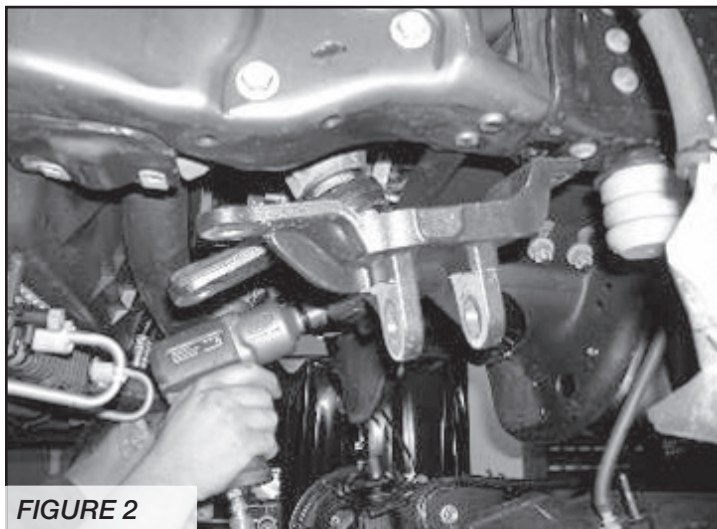

FIGURE 2
8. Remove the trac bar from the frame bracket and save the original hardware. Remove the trac bar bracket from the frame and save the original hardware and discard the factory trac bar bracket. **SEE FIGURE 2**